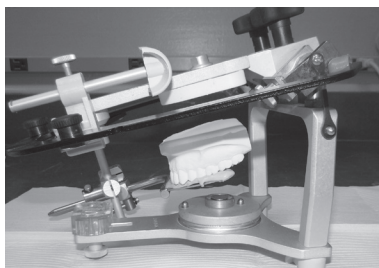

Figure 23
8. Position the upper model into the bite registration and mount the maxillary model. (Figure 23)